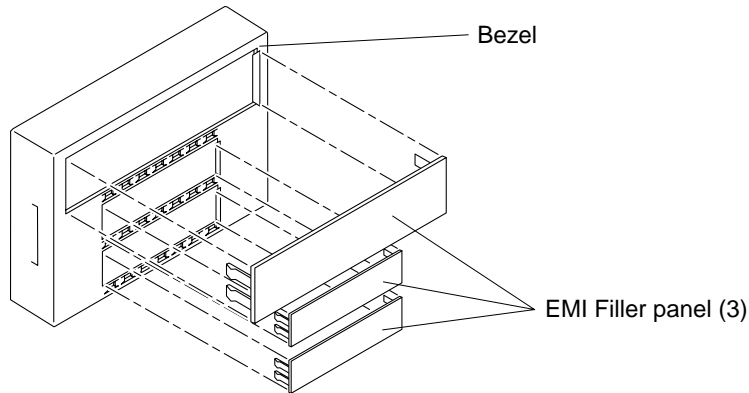
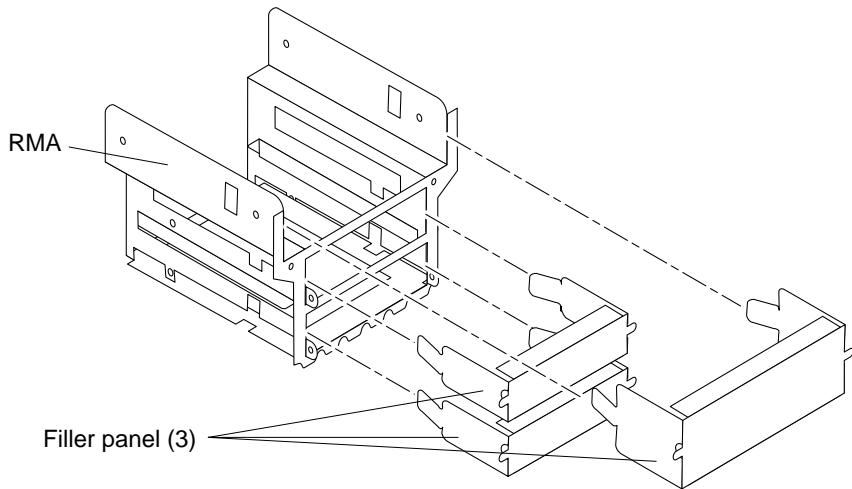

FIGURE 8-5 Removing and Replacing the Bezel EMI Filler Panel
FIGURE 8-6 Removing and Replacing the RMA EMI Filler Panel
2. **Remove an EMI filler panel as follows (FIGURE 8-5):**
4. **Use your fingers to pop the drive tray EMI filler panel from the drive tray (FIGURE 8-6).**
- 1. Position and snap the EMI filler panel into the RMA (FIGURE 8-6).**
- 3. Position and snap the EMI filler panel into the bezel (FIGURE 8-5).**
- 5. Remove any long PCI cards and UPA graphics cards (FIGURE 8-5 and FIGURE 8-6):**